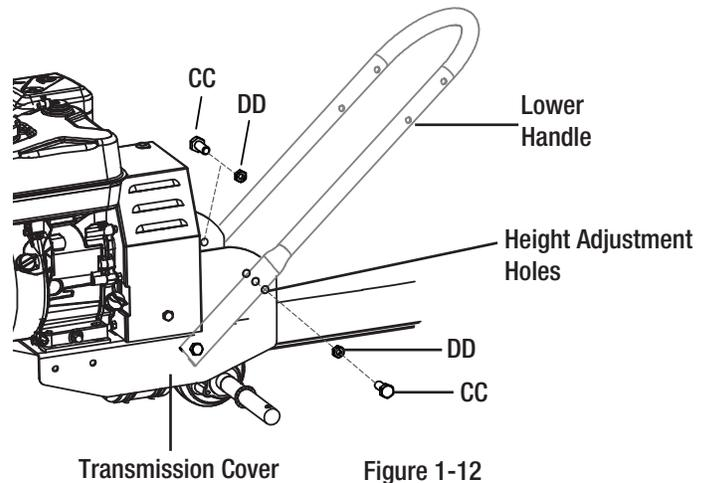

Figure 1-12
- Unscrew nuts (DD) and remove top and bottom bolts (CC) on each side of the lower handle.
- Install bolts (CC) and nuts (DD). Retighten. See Figure 1-12